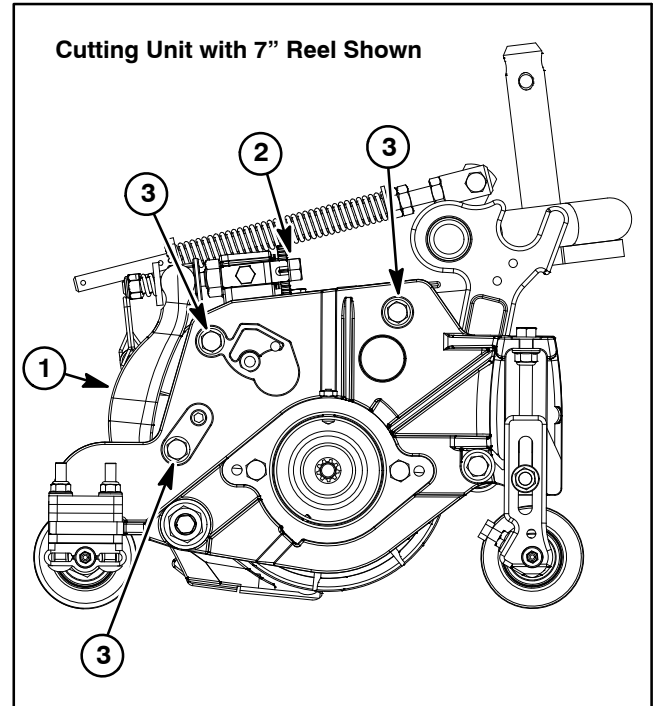

Figure 17
4. Loosen, but do not remove, shoulder bolts that secure the side plate to the frame opposite the side that is not level (Fig. 17).